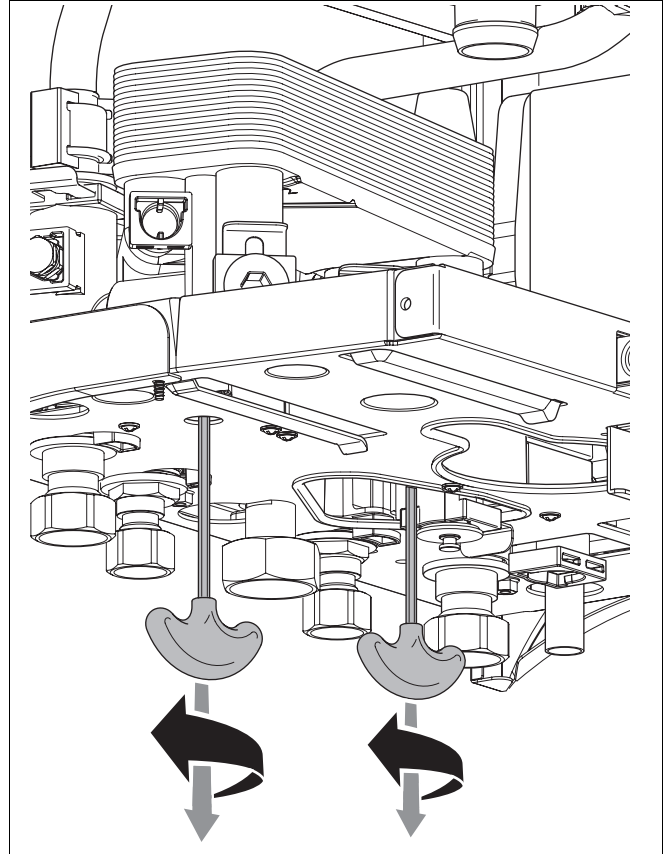

fig. 65 Remove screws of plate heat exchanger
- Remove the two screws of the plate heat exchanger (see fig. 65).